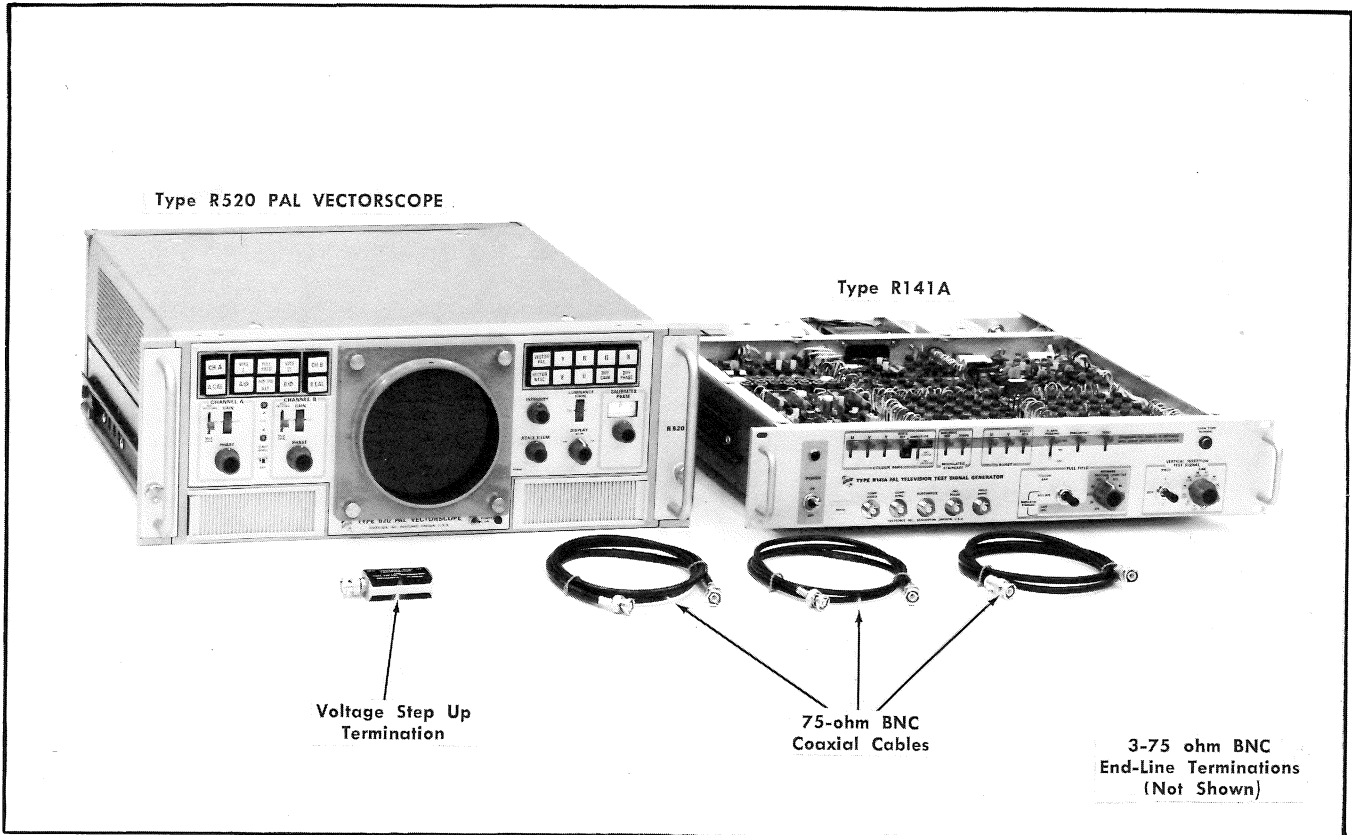

Fig. 5-52. Test equipment required for steps 40 and 41.
a. Test equipment is shown in Fig. 5-52.